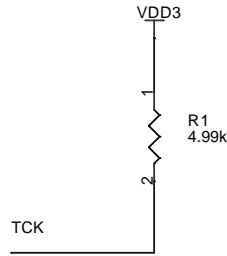

Figure 14. Connection for the JTAG TCK Pin
Connect a 1 to 10 k Ω pull-up resistor to the JTAG **TCK** pin (19), as shown in **Figure 14**.